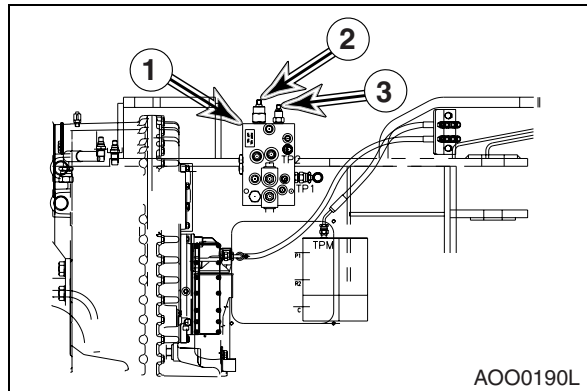

Figure 108
2. Adjust brake charge valve cartridge (2, Figure 108) on brake and pilot and fan motor supply valve (1, Figure 108). Relief pressure for brake charging is $120 \pm 5 \text{ kg/cm}^2$ ($1,707 \pm 70 \text{ psi}$).